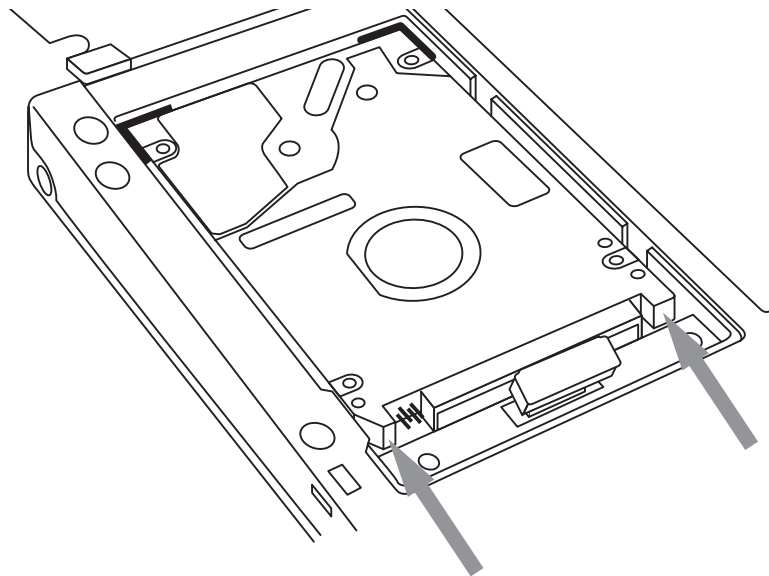

Figure A-2: Unplugging the Hard Disk Drive Connector
3. Carefully disconnect the small connector by pulling upwards (reference Figure A-2:). Use care when disconnecting this connector; it is attached to a delicate flex cable.